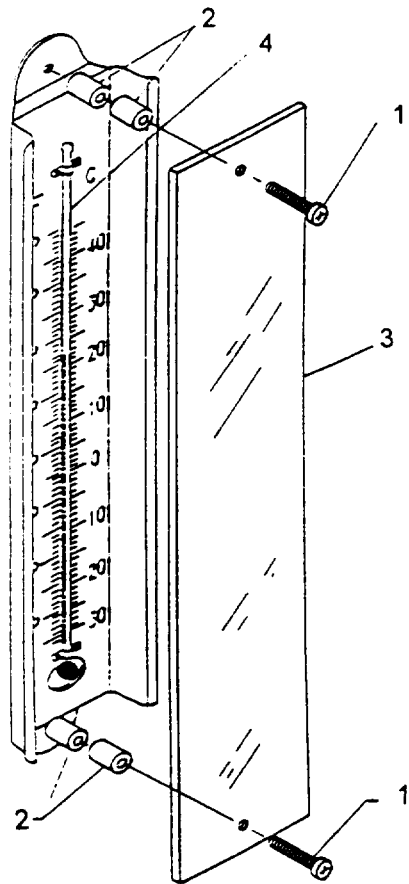

Figure 4-6. Temperature Gauge Replacement
**4-14. TEMPERATURE GAUGE REPLACEMENT. (Refer to Figure 4-6)**